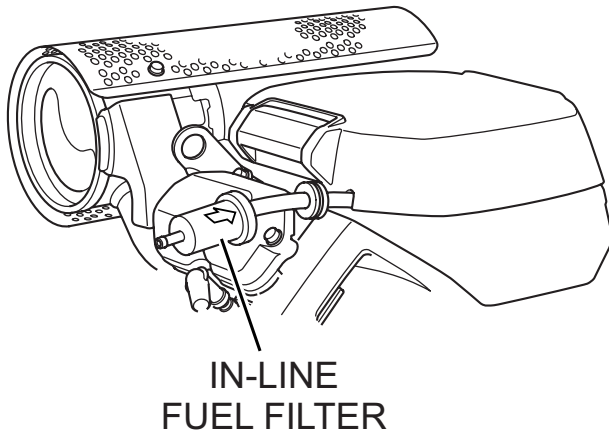

Figure 45. In-Line Fuel Filter
1. Replace the engine fuel filter (Figure 45) every 200 hours.